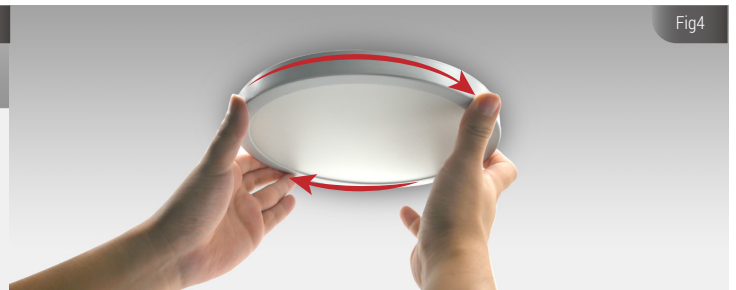

Fig4
4. Arrange the wires into the J-Box. Align the 2 screw points on fixture to the wider side of long holes on the bracket, twist in clockwise direction until fixing stable. Turn on the power after installation, check the fixture can work well, see Fig4.